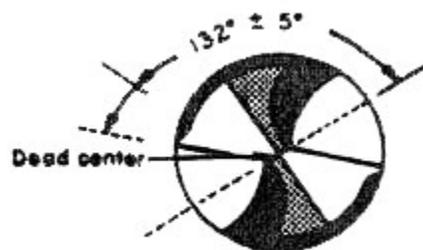

Figure 8-9. Drill Angles: Locations of Point and Center of Drill
**Central Locations of Point and Center of the Drill:** If 1 and 2 have been correctly ground, the point and dead center will be centrally located on the axis of the drill. See Figure 8-9.